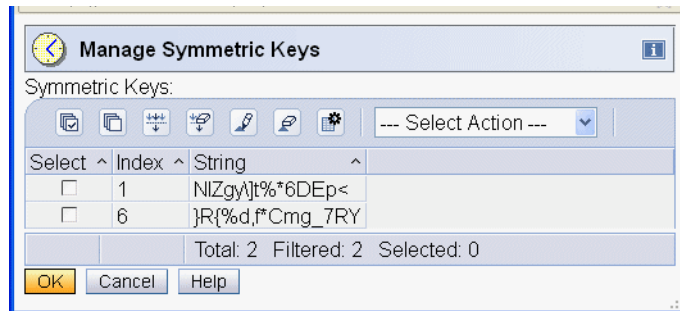

Figure 1-6 Manage Symmetric Keys - final view
- Once all the keys and strings have been entered, you can verify them in the Manage Symmetric Key panel and click **OK** to confirm the configuration (Figure 1-6 on page 9).